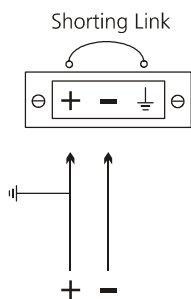

Figure 2-9 Shorting Link
- 1 For installations with -48V earthed a shorting link must be added (see Figure 2-9).